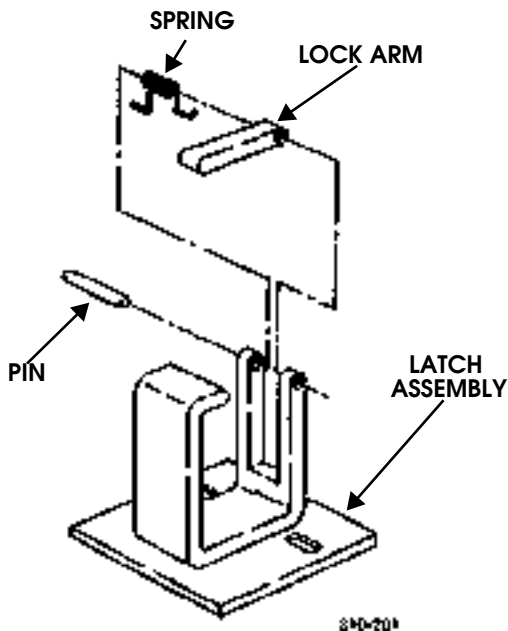

Figure 10-79: Latch Assembly Breakdown
3. Remove pin, spring, and lock arm from latch assembly (Figure 10-79).
5. Secure spring and lock arm to latch assembly with pin (Figure 10-79).